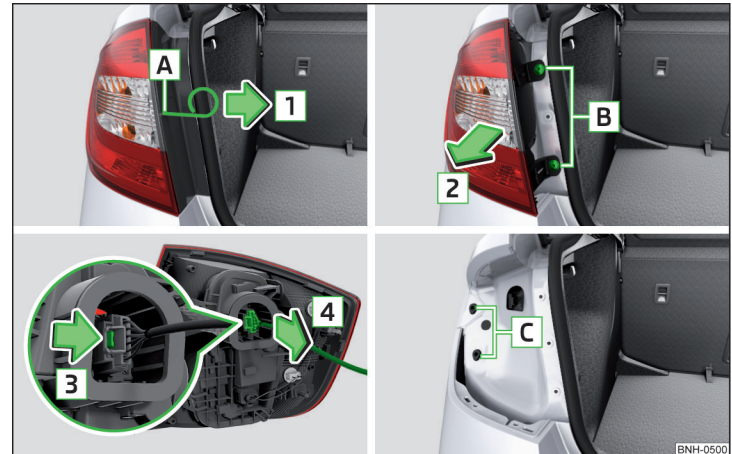
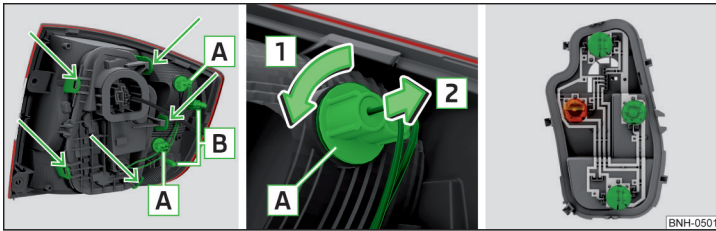

Fig. 160 Remove light / pull out connector
Fig. 161 Outer part of the lamp/inner part of the lamp
- Insert the clamps for removing the full wheel covers » page 155, *Vehicle tool kit* into opening **A** » Fig. 160.
- Insert the lamp with the pin **B** » Fig. 161 on page 176 into the recesses **C** » Fig. 160 in the body.
- › Rotate the lamp socket **A** » Fig. 161 in direction of arrow **1** and remove in direction of arrow **2** from the lamp housing.
- › Unlock the bulb holder using the marked area with arrows » Fig. 161 and remove the bulb holder from the light.